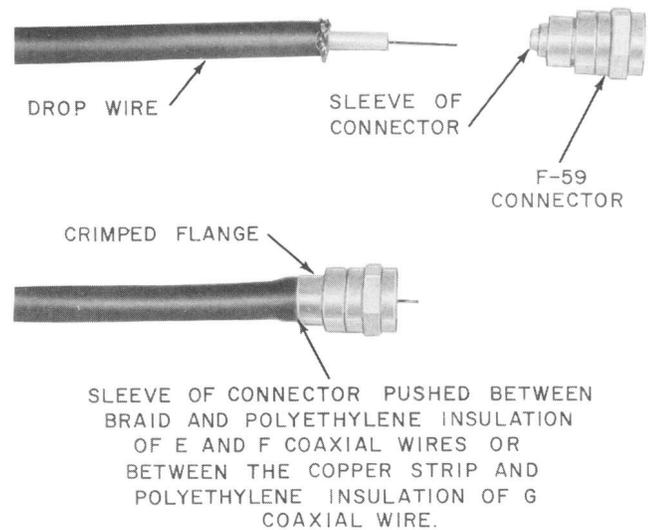

Fig. 17—Installation of F-59 Connector
9.01 Insert the conductor and polyethylene insulation into the sleeve of the F-59 connector (Fig. 17).